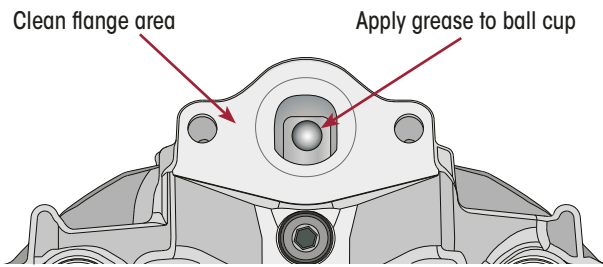

Figure 128: Clean & Lubricate Calliper Chamber Mount
2. Lubricate the brake lever ball cup with a white lithium-based grease before installing the brake chamber. Refer Figure 128.
4. Clean the brake calliper flange area to ensure a good seal to the brake chamber. Refer Figure 128.